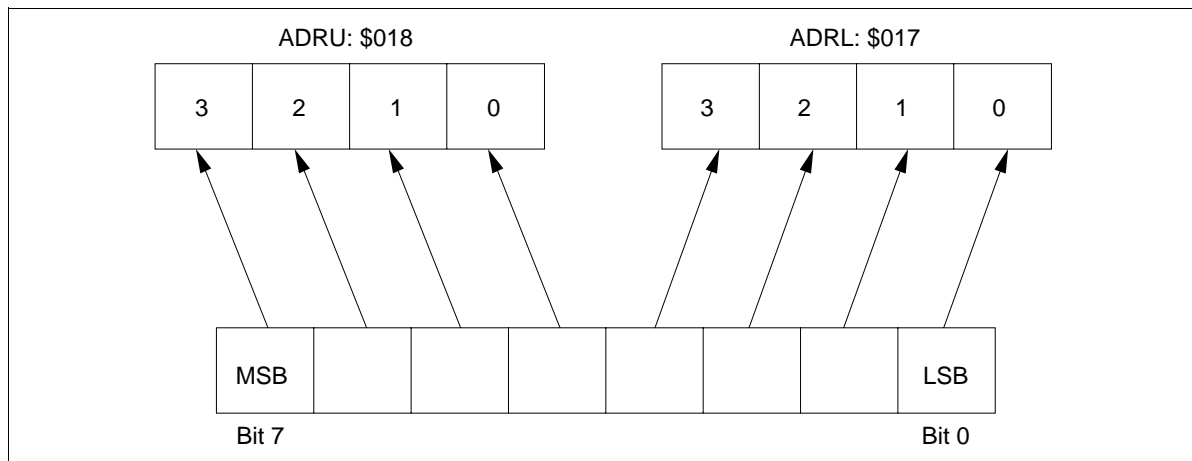

Figure 68 A/D Data Registers (ADRU, ADRL)
**A/D Data Register (ADRL: \$017, ADRL: \$018):** Eight-bit read-only register consisting of a 4-bit lower digit and 4-bit upper digit. This register is not cleared by reset. After the completion of A/D conversion, the resultant eight-bit data is held in this register until the start of the next conversion (figures 68, 69, and 70).